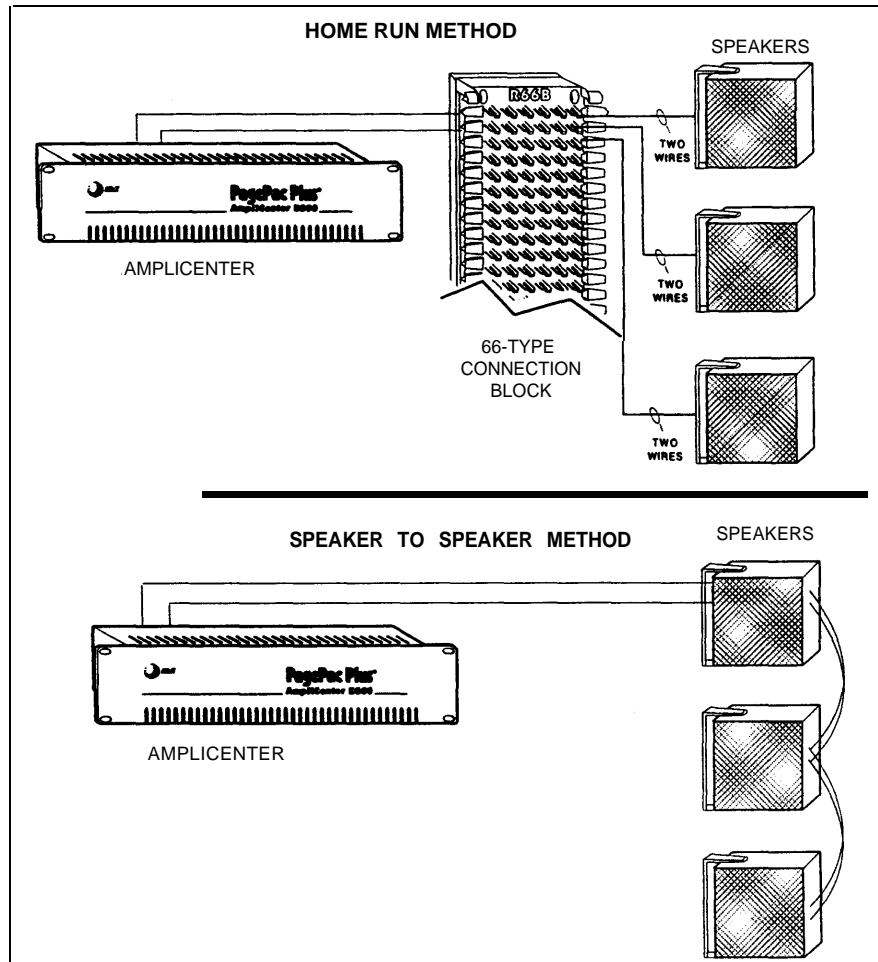

Figure 11. Speaker Run Methods
- 2** Connect each speaker to the appropriate Home Run or Speaker-to-speaker wiring scheme as shown on the wiring plan (See Figure 11, below)